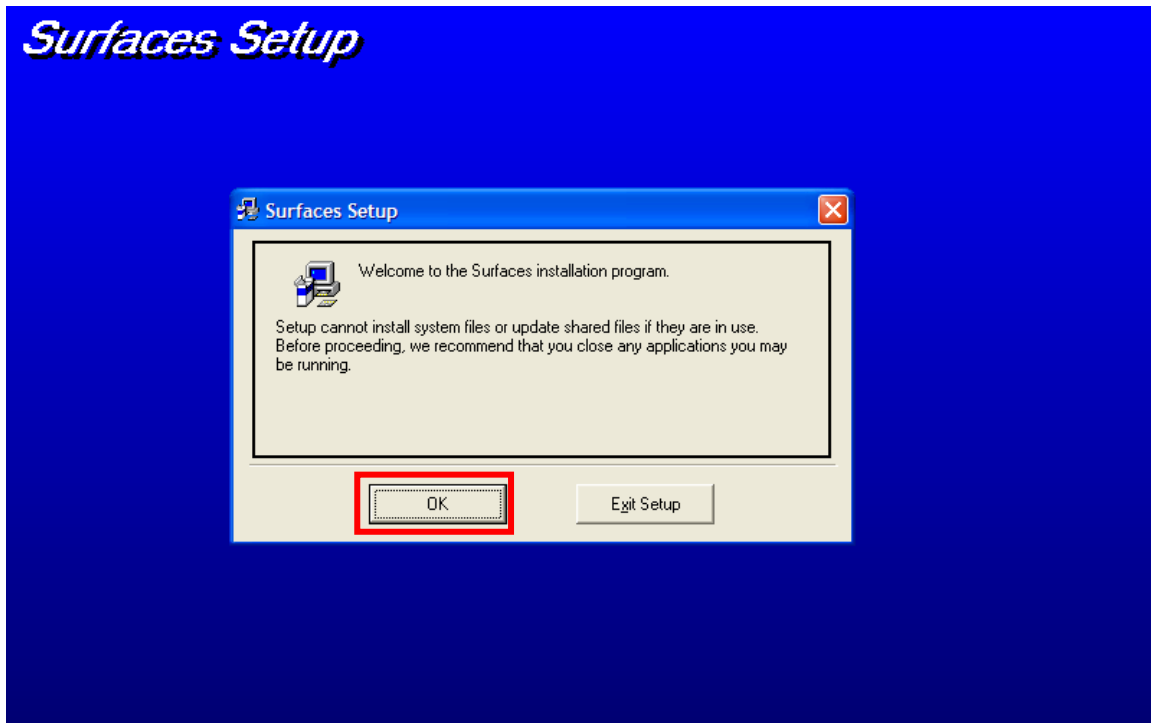

Figure 2-4a: The setup welcome form. Press the [OK] button to proceed.
STEP 2.4 Follow the instructions shown on the screen and in Figures 2-4a through 2-4d.